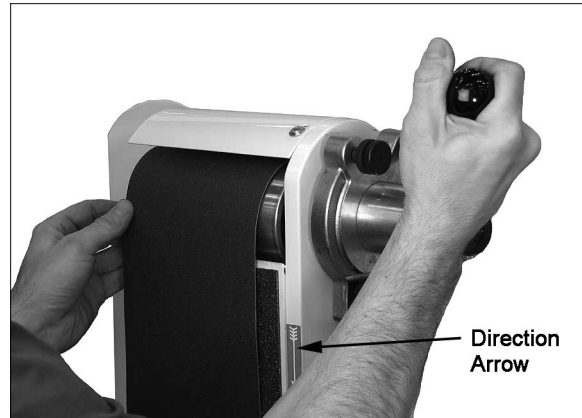

Figure 17
4. Most brands of replacement abrasives are directional, and must be installed in the proper direction. Directional belts are so indicated on the backing material by arrows. The direction of the arrow on the platen assembly (Figure 17).
5. Once the belt direction has been determined, pull the belt tensioning handle toward you with one hand, while using the other hand to slide the belt onto both drums and over the platen pad. See Figure 17.